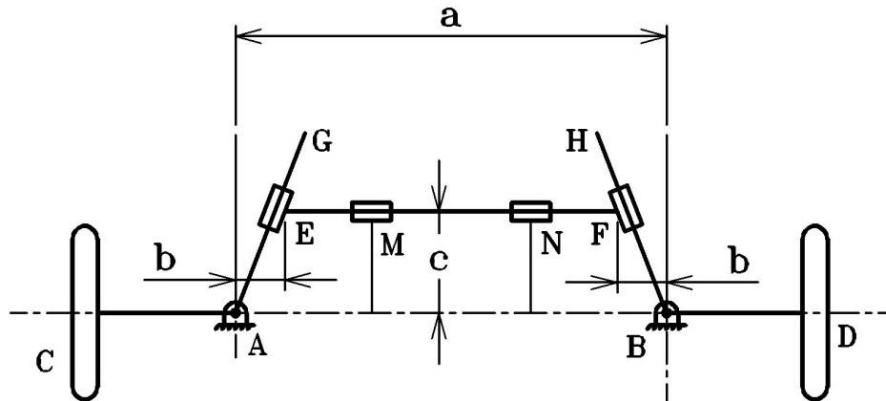

Figure.23
- 1.11 In the Davis steering-gear shown in Figure.23, the stub axles CA and DB are pivoted at A and B on the rigid axle and are continuous with the arms AG and BH respectively. The cross link EF is pivoted at the ends to the blocks sliding on the arms AG, BH and slides in the guides at M & N. Show that correct steering is obtained if the distance between front and rear axles is $(ac/2b)$.